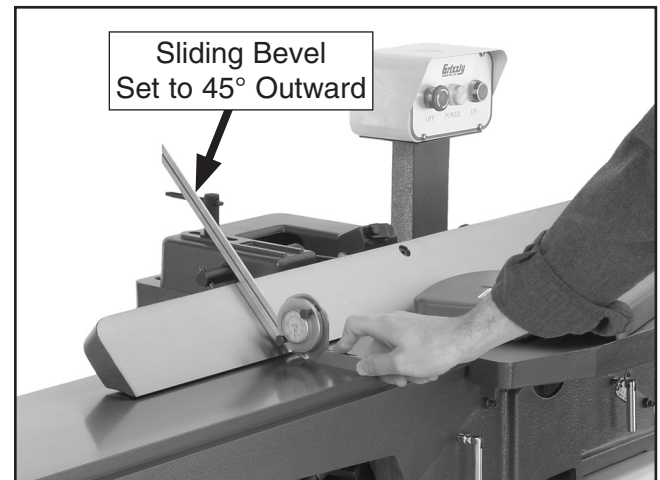

Figure 64. Example of adjusting fence 45° outward.
- Place sliding bevel set to 135° against fence and table, as shown in **Figure 64**.